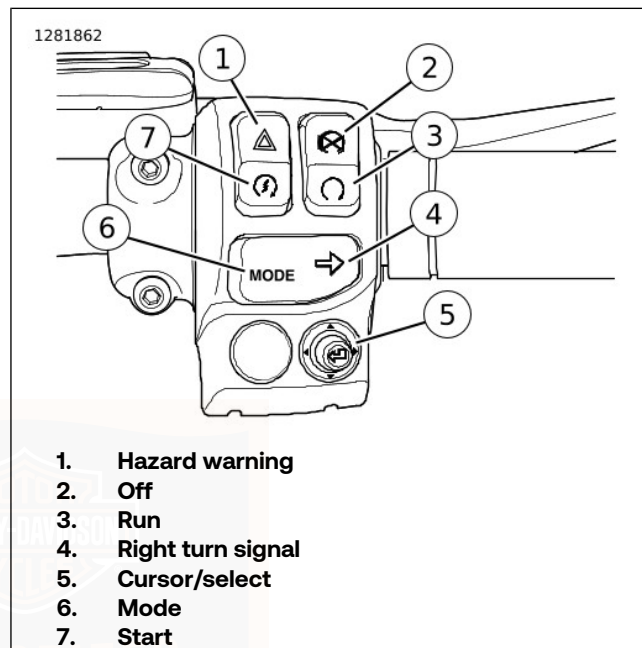

Figure 48. Right Hand Switch Module
5. See Figure 48. Press the OFF/RUN switch to the RUN (3) position.